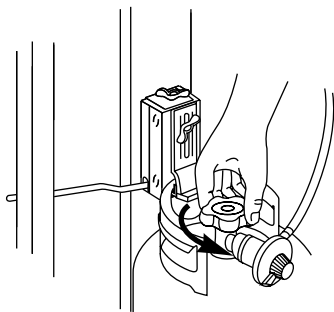

Figure 6
e) Open the tank valve. Figure 6.